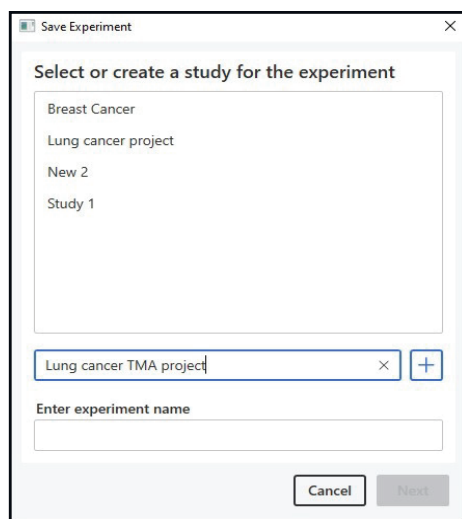

Figure 4.5. Save Experiment screen—selecting study.
2. Select the name of an available study from the Select or create a study for the experiment list. (See Figure 4.5.) When opening the application for the first time, this list will appear blank.